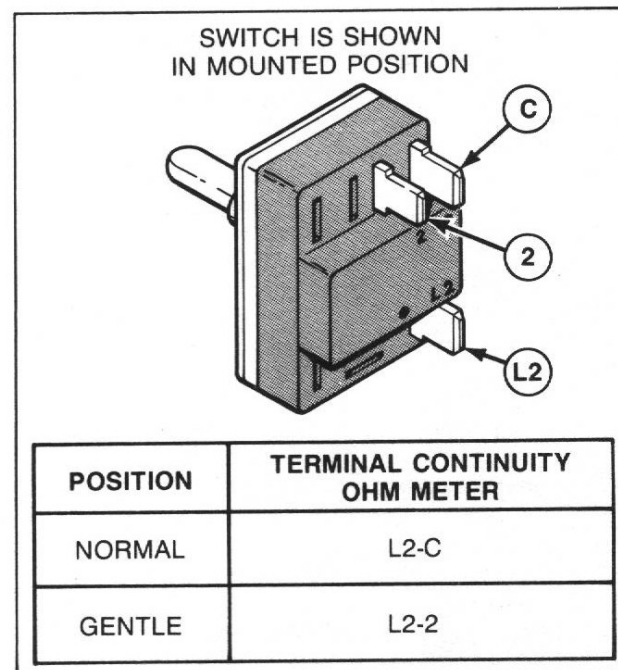

Figure 51
- c. Apply meter probes to terminals indicated in Figure 51 for continuity check.